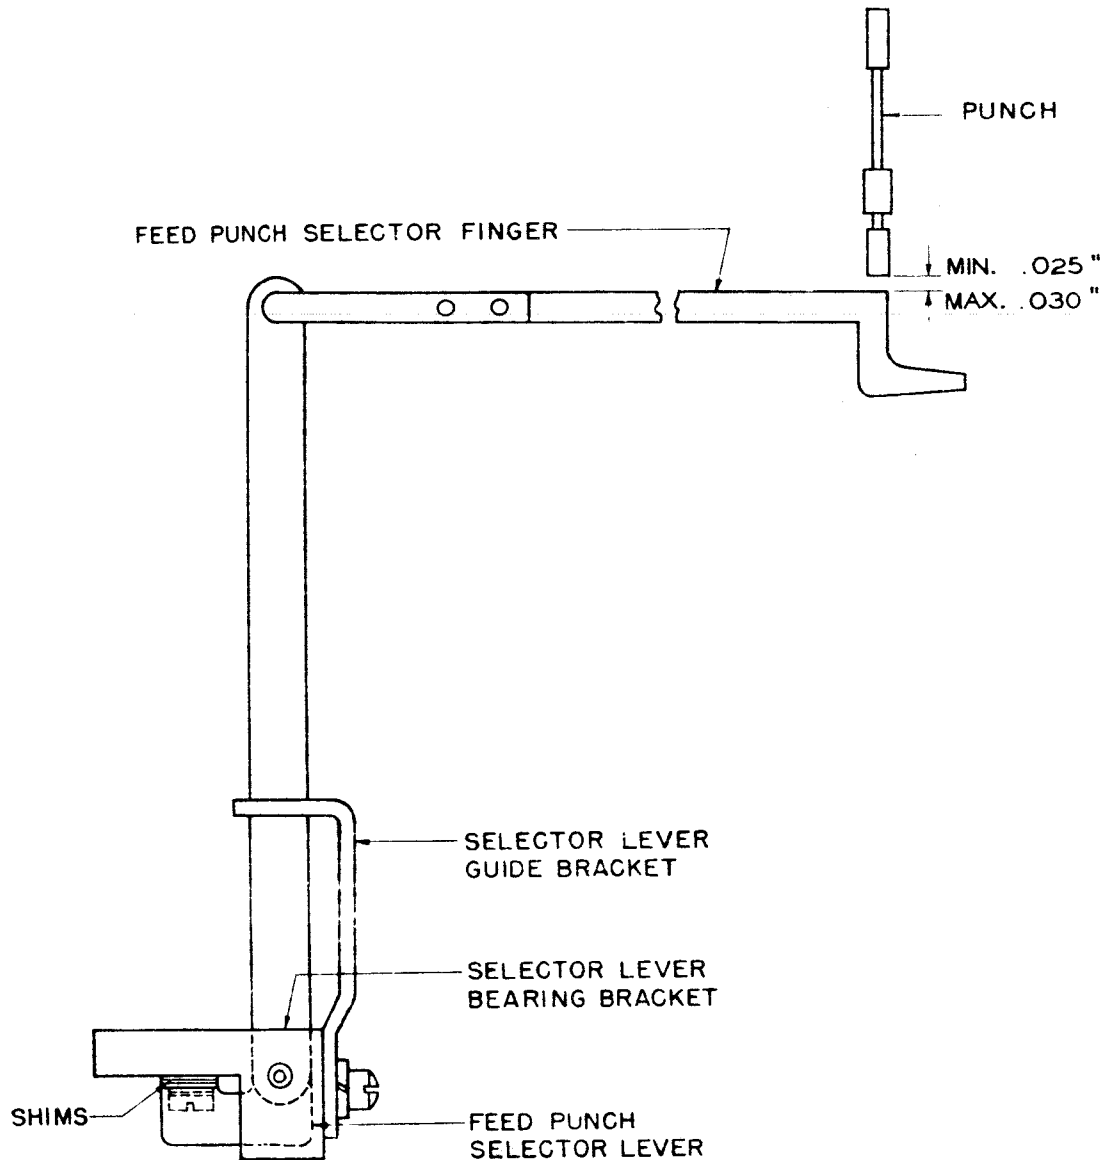

Figure 33
To Adjust: Position selector-lever bearing and guide brackets. See Figure 33 for identification of parts.
3.17 Feed-punch-selector Finger, on units equipped with an adjustable feed-punch-selector lever, should have the end of the uppermost section in line with the edge of the feed punch pin. Gauge by eye. See Figure 33.
3.19 Left Armature Stop on units equipped with TP99037 modification kit should be so positioned that the feed-punch-selector finger clears the feed punch by minimum 0.025 inch, maximum 0.030 inch, when the end of the uppermost section of the finger lines up with the edge of the punch and when the armature lever is against its left stop. See Figure 33.